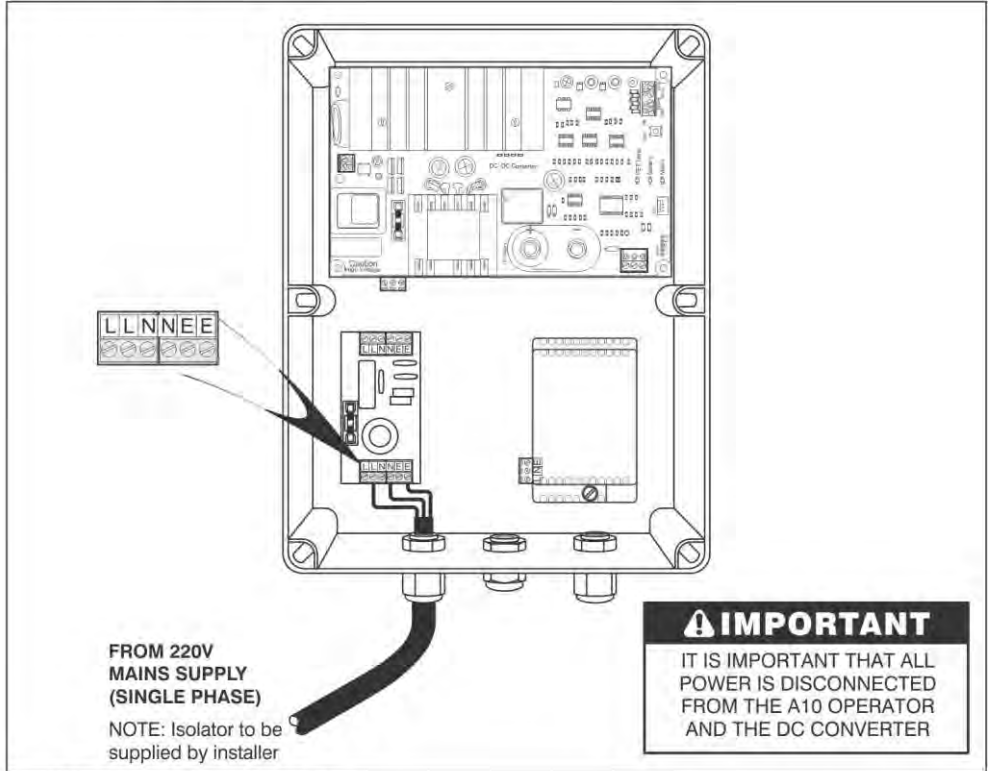

Fig. 5 DC Converter Power Connections
2. Connect the mains supply to the surge protection module of the DC converter unit as shown in Fig 5.